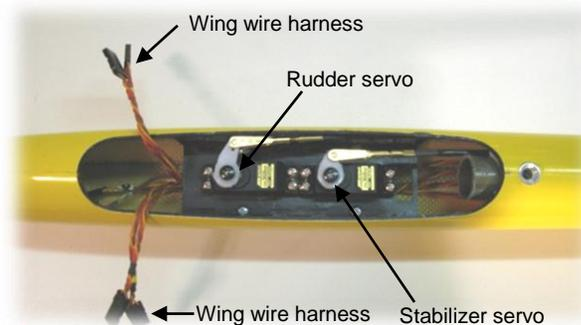

Figure 10: Servos and Wing wire harness installed
1. The Rudder servo is installed in the forward servo location in the tray and the Stabilizer servo is installed in the rear servo location in the tray as shown in figure 10.
- Hold the Fuselage vertical and feed the wires down through the opening in the Fuselage wing mount platform under the servo tray, and into the front of the fuselage as shown in figure 10.